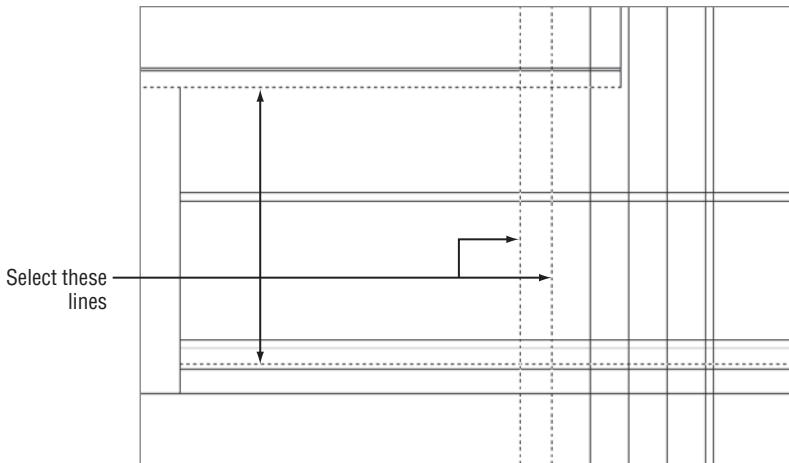

FIGURE 10.20 Select the cutting edges for the TRIM command.
6. Start the TRIM command and select the two post lines, the soffit line, and the third horizontal deck line (deck surface) from the bottom as the cutting edges (see Figure 10.20).